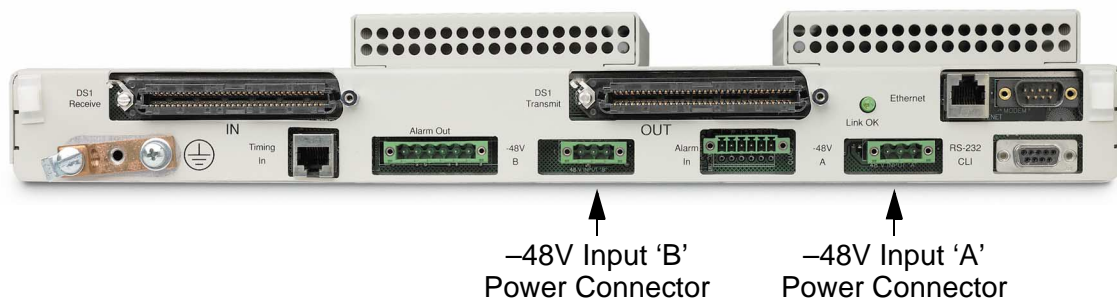

Figure 6-24. Location of Rear Panel Power Input Connectors
1. Use voltmeter to verify wiring of both power connectors (Figure 6-24) before plugging into Access Navigator.
1. Plug connectors into Access Navigator power input connectors (see Figure 6-24).